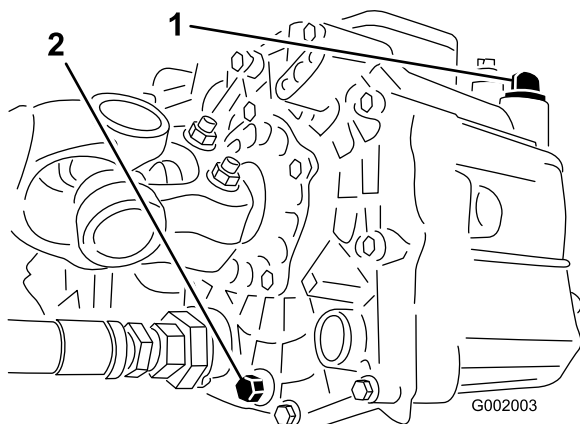

Figure 65
3. Remove the drain plug from the side of the reservoir and let the hydraulic fluid flow into the drain pan (Figure 65).